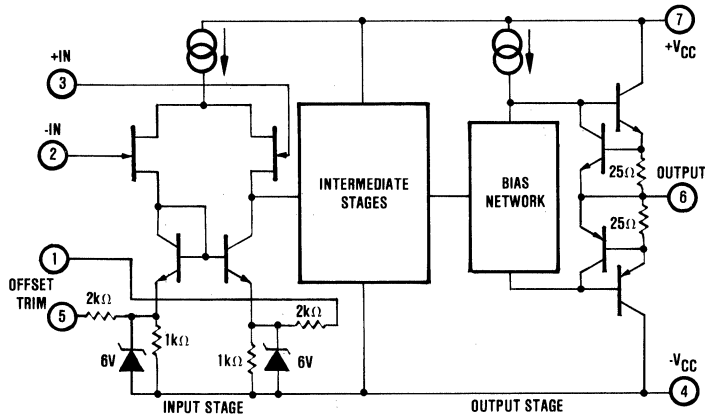

FIGURE 3. Simplified Schematic Circuit.
3.2.9 Schematic Circuit. The schematic circuit is shown in Figure 3.